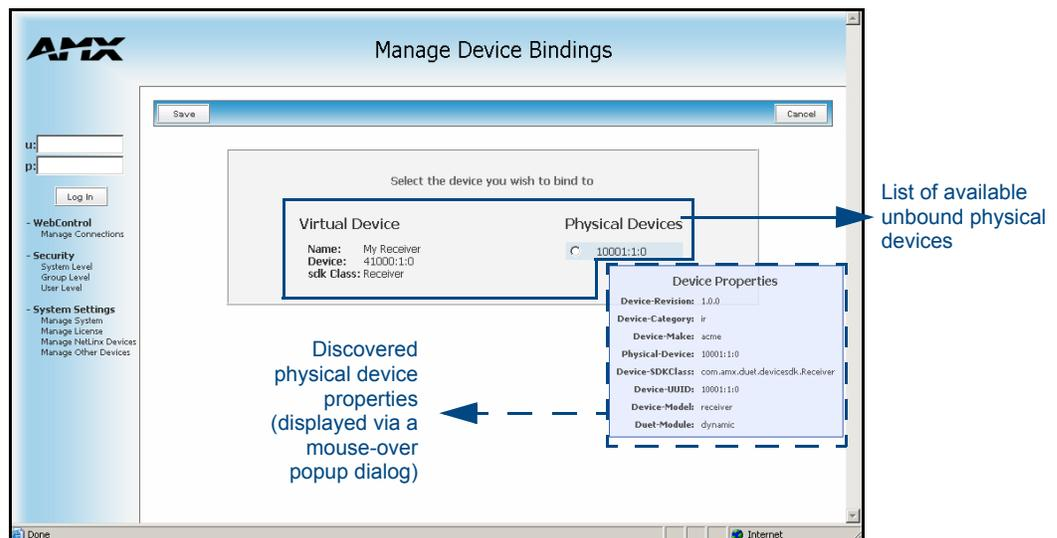

FIG. 69 Manage Device Bindings - showing a listing of all unbound devices
- Dynamic application devices that have not been bound to a physical device display a **Bind** button. When this button is selected, a secondary display appears with a listing of all available unbound physical devices that match the application device's Device SDK class type (FIG. 69).
- A mouse-over popup dialog is provided to display the properties associated with each discovered physical device that is listed (FIG. 69).
- From the secondary window, choose the appropriate physical device from the listing of all available unbound physical devices which matches the application device's Device SDK class type (FIG. 69 on page 87).